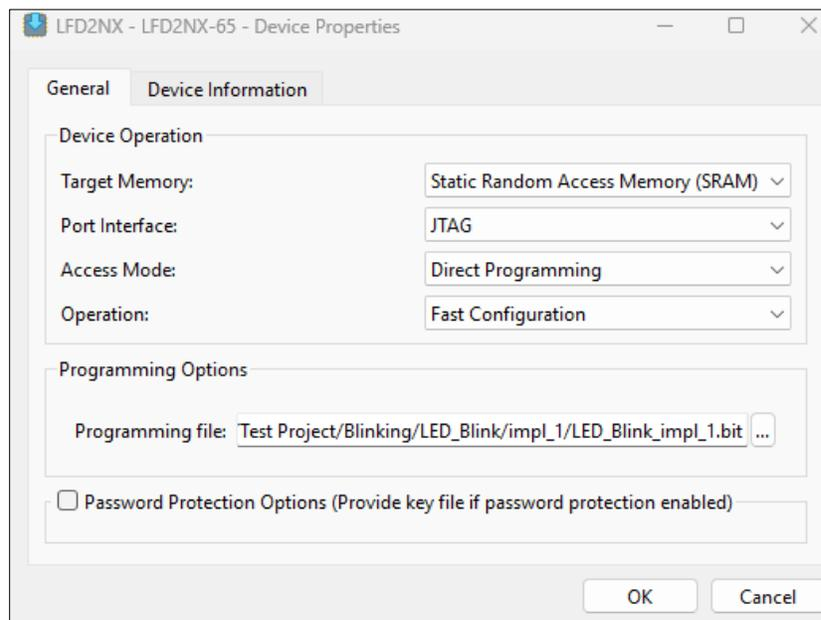
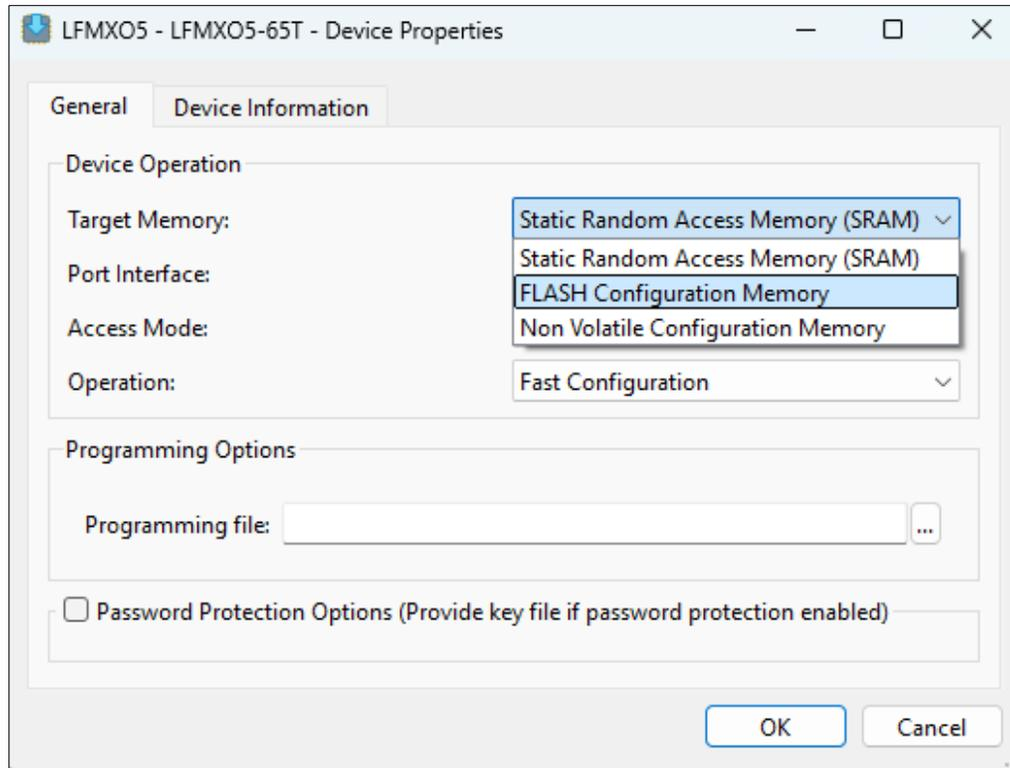

Figure 4.4. Radiant Programmer – Device Properties
Figure 4.5. Radiant Programmer – Select Target Memory for Device Properties
5. The **Device Properties** dialog box opens, as shown in Figure 4.4. Select the following options:
5. The **Device Properties** dialog box opens, as shown in Figure 4.4. Select **FLASH Configuration Memory** from the **Target Memory** drop-down list in the **Device Operation** area, as shown in Figure 4.5.